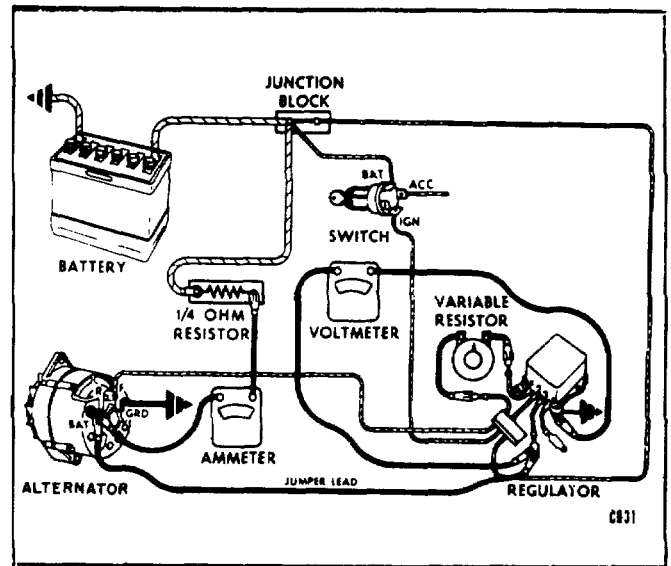

Figure 22.
a. Connect an ammeter and a 1/4 ohm resistor with a rating of 25 watts or more in series in the circuit at the "BAT" terminal on the alternator. (Fig. 22)
j. The difference in voltage between the operation of the upper set of contacts and the lower set is increased by slightly increasing the air gap between the armature and center of core and decreased by slightly decreasing the air gap. See Figure 22 for changing the voltage regulator air gap. If it is found necessary to make this air gap adjustment, it will be necessary to recheck the voltage setting of both sets of contacts.